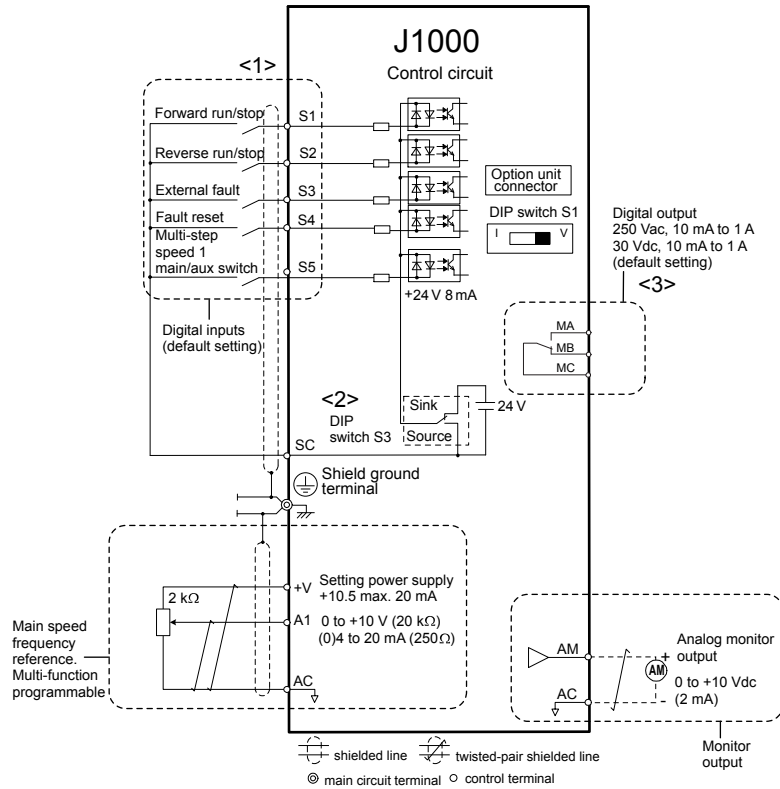

Figure 3.10 Control Circuit Connection Diagram
Drive parameters determine which functions apply to the multi-function digital inputs (S1 to S5), multi-function digital outputs (MA, MB, MC), and multi-function analog output (AM). The default is called out next to each terminal in *Figure 3.10*.